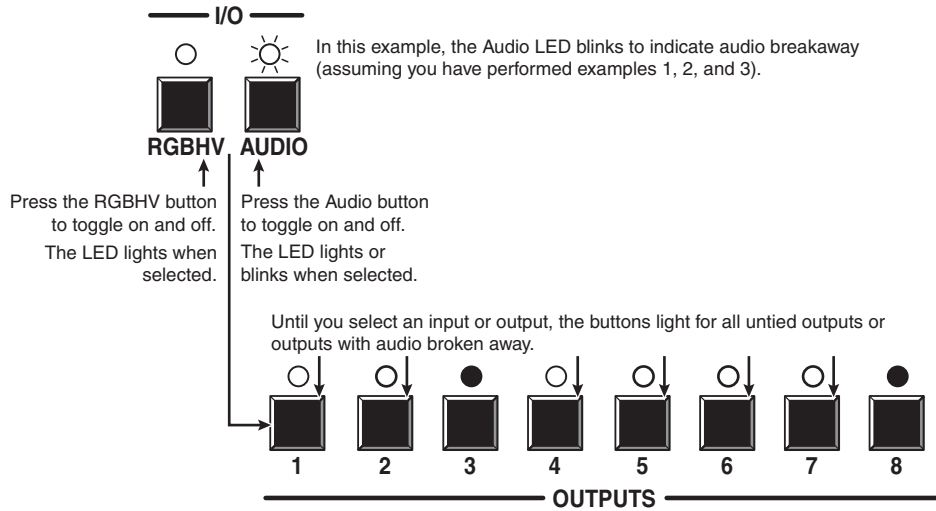

Figure 3-28 — Select RGBHV and audio
- To select both video and audio for viewing and muting, if necessary, press and release the RGBHV button and the Audio button (figure 3-28).